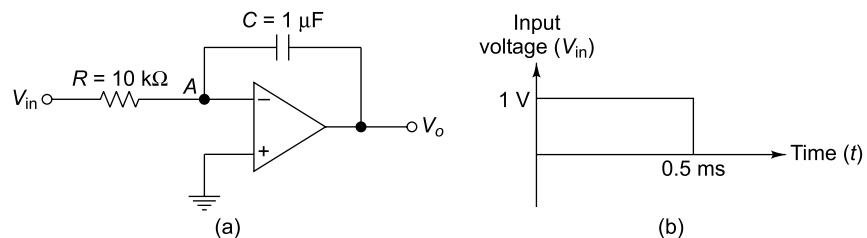

Fig. 5.41 Circuit of Ex. 5.20
5.20 When a step voltage input is applied to an integrator circuit from 0 to 0.5 ms as shown in Fig. 5.41, find out the output voltage at \$t = 0.5\$ milisecond.